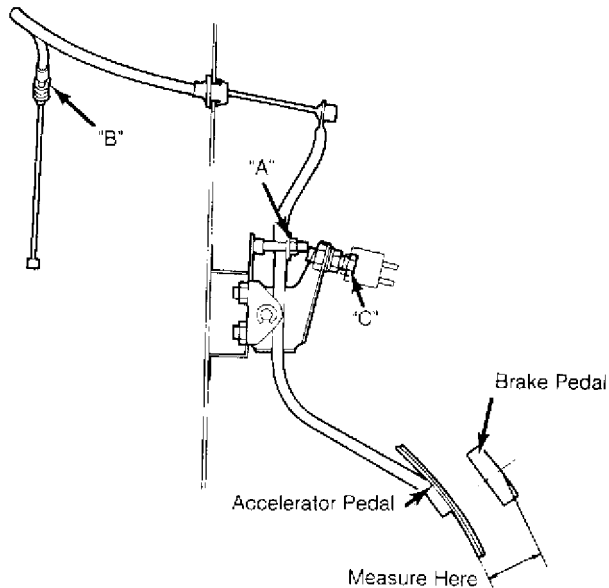

Fig. 11: Adjusting Accelerator Cable and Pedal Height
1) Check accelerator pedal position. Pedal should be 1.5-1.9" (37-47 mm) lower than brake pedal. See Fig. 11. If necessary, adjust nut "A" to obtain correct position.